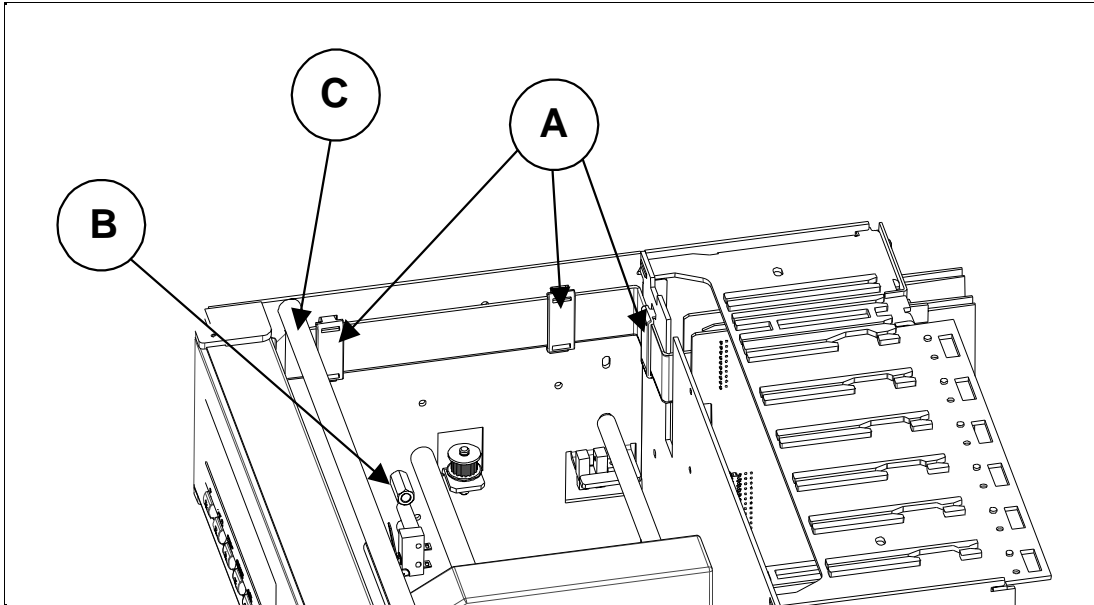

Figure 2-9
19. Remove the 3 flat cable clips. (See ref. A, Figure 2-9)
20. Remove the ink ribbon cartridge thrust (see ref. B, Figure 2-9). Unscrew the fixing screw.
21. Remove the shaft (see ref. C, Figure 2-9) by unscrewing the 2 screws.